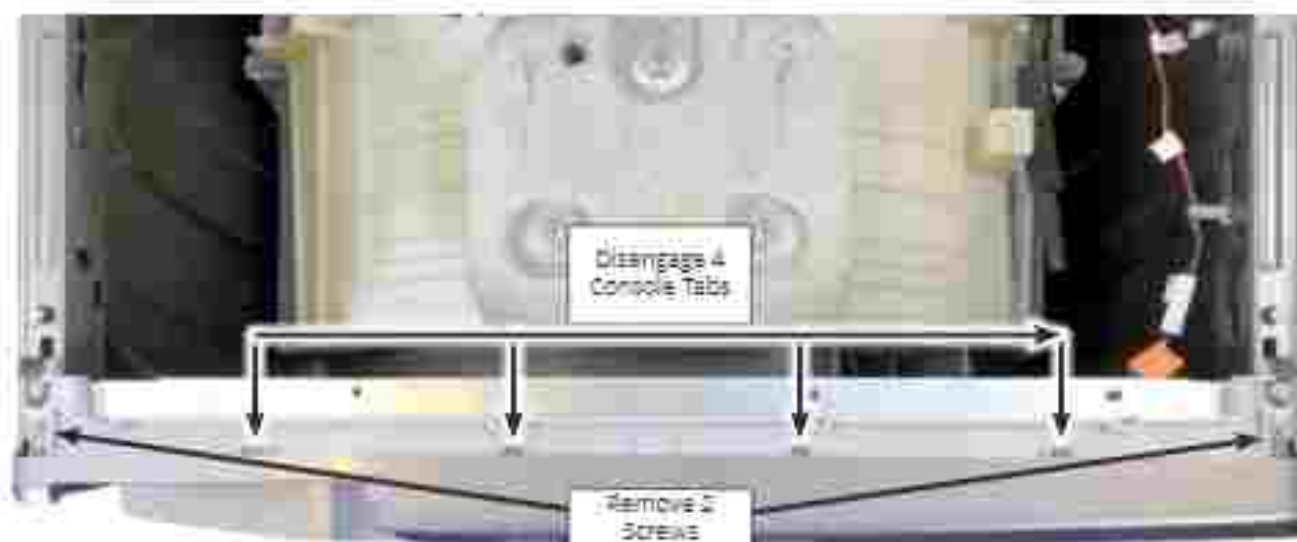

Figure 2 - Remove Front Console Screws
7. Using either a 1/4" hex-head, or T20 Torx driver, the two (2) screws securing the Front Console to the console bracket. See Figure 2 below.
8. Lift up on top edge of console to disengage the four (4) console tabs. Lift up and away from washer. See Figure 2 below.